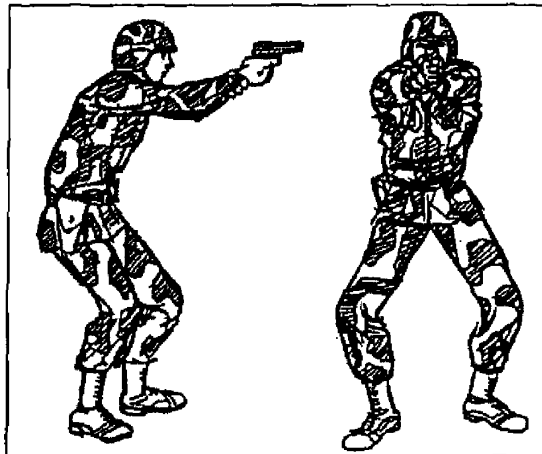

Figure 071-004-0006-10. Crouching position
- (1) Place the pistol in the "V" formed by the thumb and forefinger of your firing hand. Line the sights up with your firing arm. Wrap your lower three fingers around the pistol. Grip with your middle finger under the trigger guard. Exert equal pressure on all three lower fingers to the rear, back through the wrist and forearm (figure 071-004-0006-1).
- (2) Rest your thumb on top of your middle finger when gripping the pistol. Do not exert any downward pressure.
- (3) Grip the pistol firmly, but not so firmly that your hand trembles.